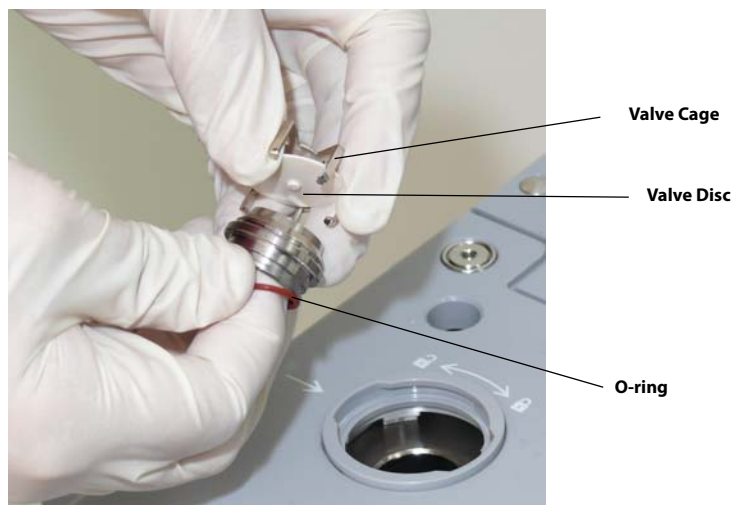

FIGURE 7-12 Valve Cage Removal
2. Remove the valve cage (see FIGURE 7-12). The six prongs of the valve cage have tabs that secure cage onto the valve assembly. While noting the previous **CAUTION**, use two hands to remove the valve cage by gently manipulating the prongs to release the tabs. As the valve cage is lifted away from the assembly, ensure that the valve disc does not fall out.
3. Remove the valve disc from the valve cage (see FIGURE 7-12).
4. Remove the O-ring from the bottom of the valve assembly (see FIGURE 7-12).